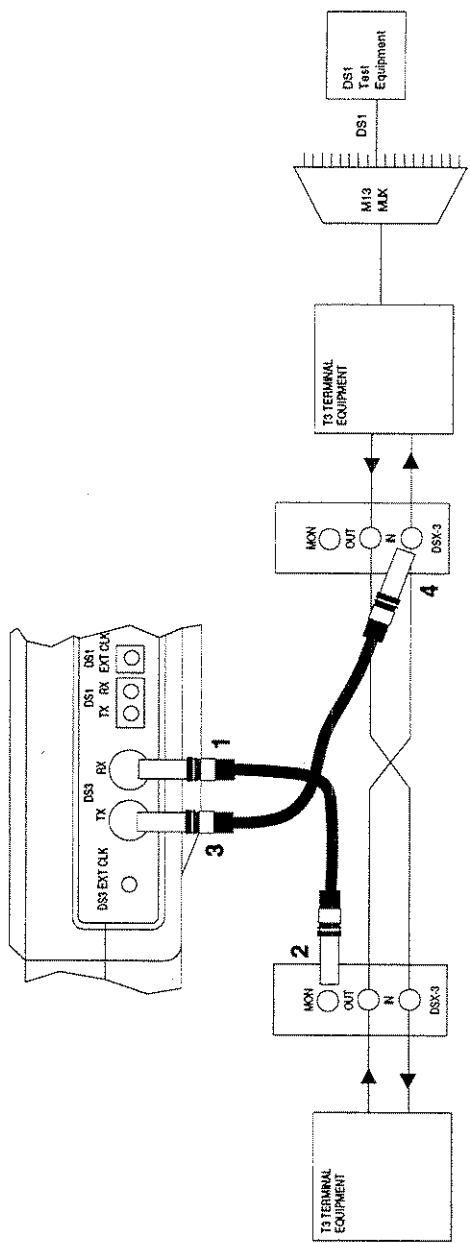

Figure 1.18.A Insert a DS1 into a DS3 - In Service
Use this procedure to insert a DS1 test signal into a DS3 circuit. Refer to Figure 1.18.A. You will need another SunSet T3 or other piece of test equipment to receive the DS1 signal at the far end of your circuit.
- 4) Connect the test cable to the test set's DS3 RX jack. Connect the other end of this cable to the DSX-3 MON jack of your circuit. The sequence of connections is illustrated in Figure 1.18.A.
- 9) When you are finished, disconnect your test set from the circuit in exactly the reverse order in which it was connected. Failure to observe the exact order may result in the circuit being brought down. Refer to figure 1.18.A for the correct sequence.